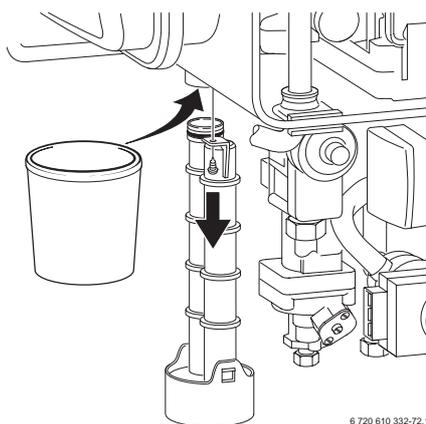

Fig. 50
- ▶ Unscrew condensation trap and place suitable container underneath. Refer to fig. 50.
In order to prevent spillage of condensate, the condensation trap should be completely removed, (see page 34, fig. 50).